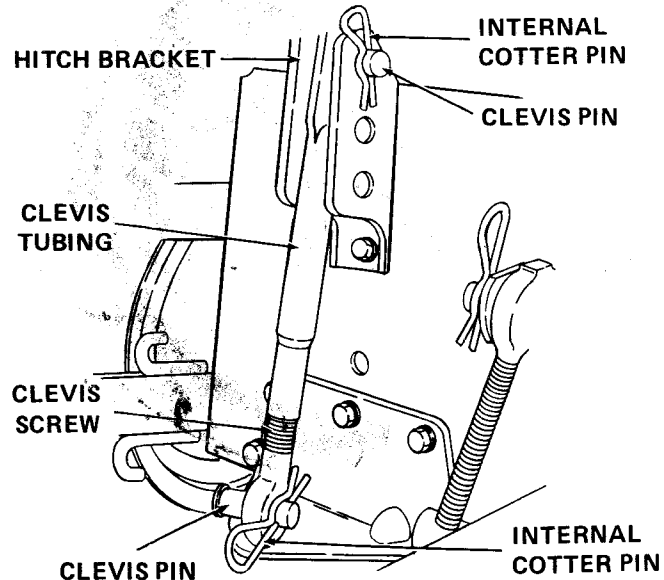

Figure B-23
- b. Place clevis tubing inside hitch bracket. Insert clevis pin (S) and secure with internal cotter pin (O). Refer to Figure B-23.
- c. Insert clevis pin (S) through looped end of clevis screw and secure with internal cotter pin (O). Refer to Figure B-23.